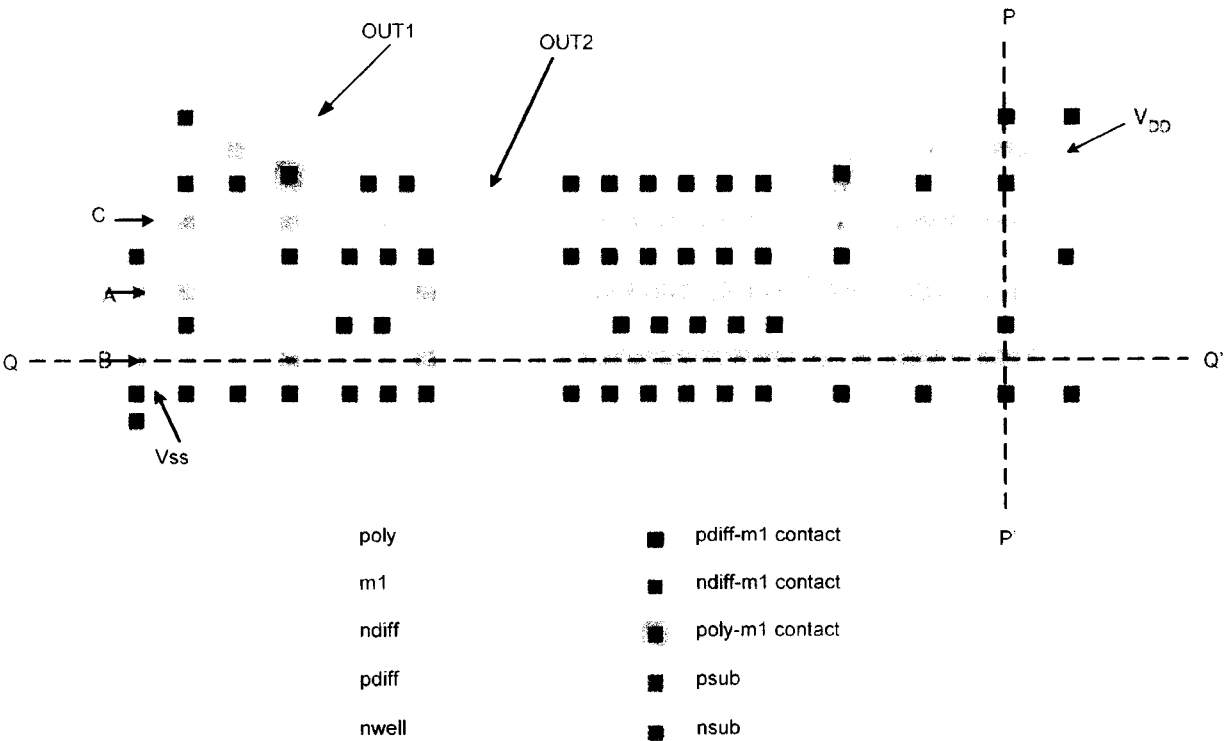

Figure 1.1 Layout of a full-custom cell for Question 1
1. a) Figure 1.1 (See the colour supplementary sheet) shows the layout of a CMOS cell with four inputs A, B and C, and two outputs OUT1 and OUT2. Extract and draw the transistor-level schematic diagram.